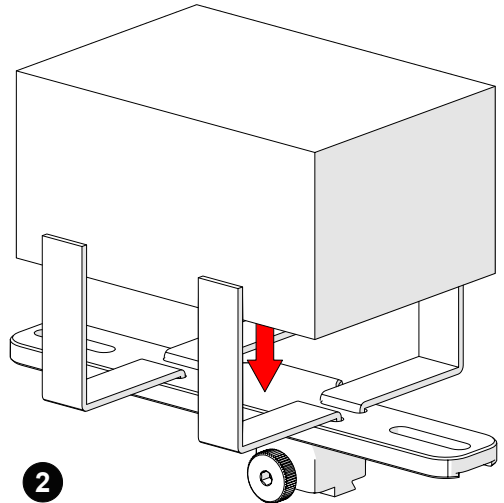

Fig. 84 - Place preamp and wrap velcro
2. Centre and place the preamp on the bracket, wrapping the velcro around the preamp (Fig. 84).